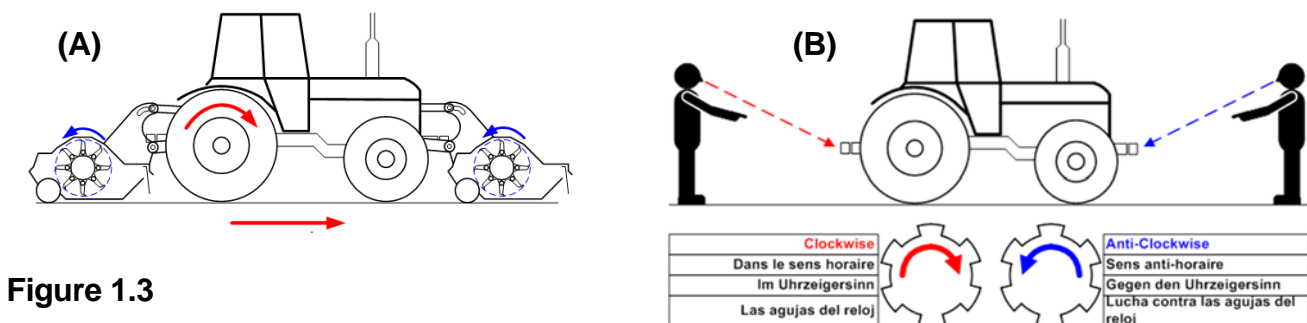

Figure 1.3
Under normal cutting conditions flail rotation in the flail mower will be the reverse of the tractor drive wheel rotation. This will be defined as '**Reverse rotation**' (RR). See Figure 1.3 (A).
This convention also extends to the definition of PTO drive rotation from the prime mover, see Figure 1.3 (B).